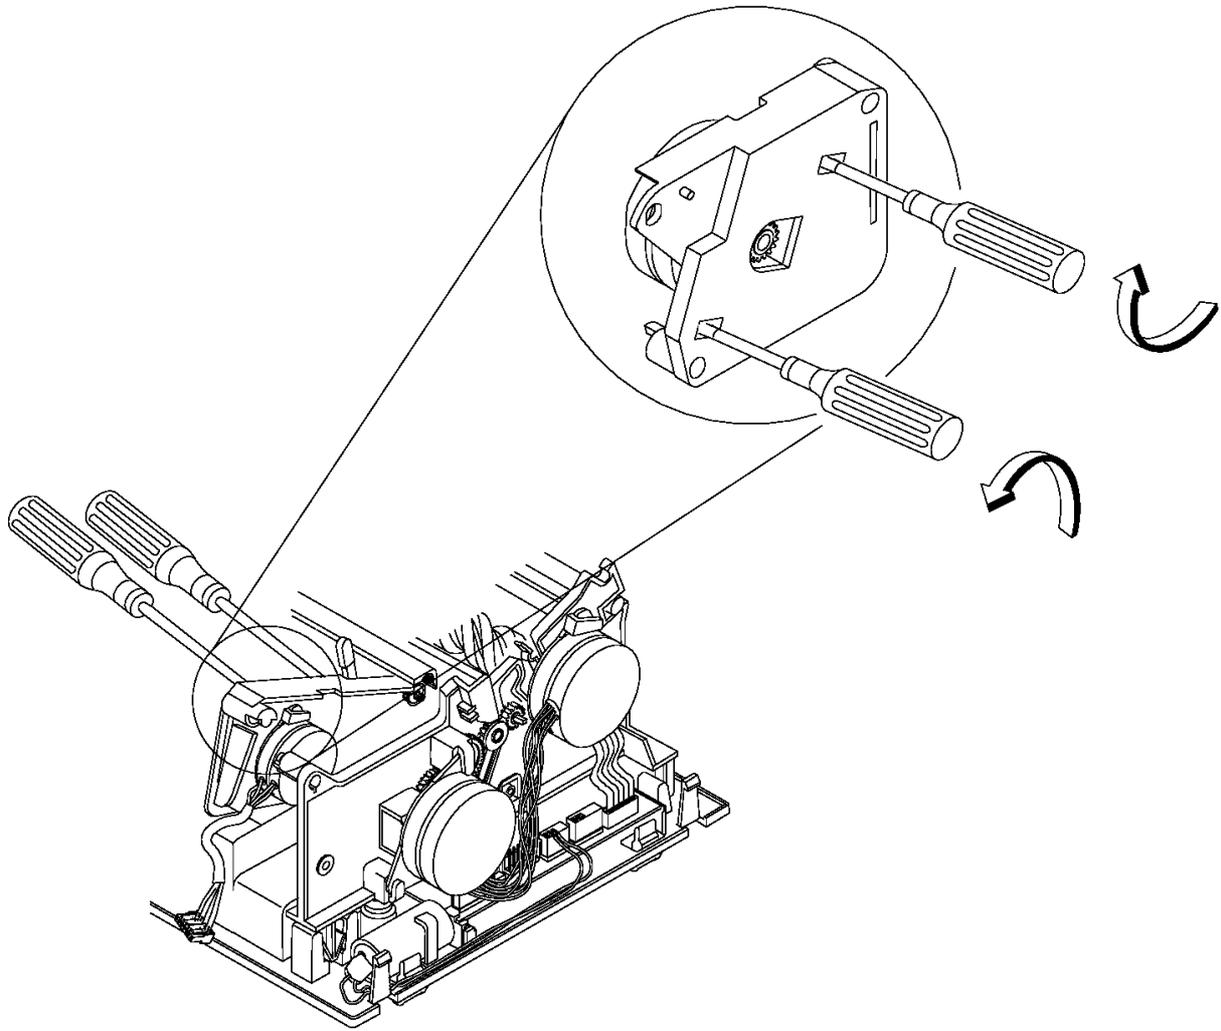

Figure 6-60. CR Motor. The enlarged view has been turned to illustrate where to insert the screwdrivers.
7. Insert 2 screwdrivers into the CR motor gear assembly as shown. See Figure 6-60 in topic 6.38.12.2. Turn the screwdrivers in opposite directions and gently pry the metal flange on the motor in the direction shown until the motor is released from the tabs.